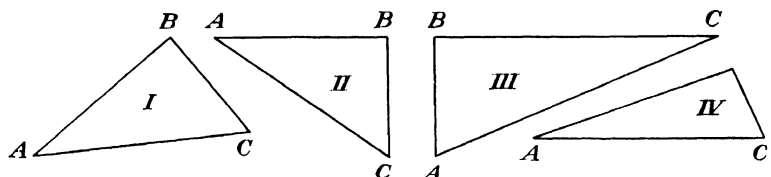

Fig. 108.
1. In your notebook draw four triangles as shown in Fig. 108. Measure as accurately as you can each of the angles in